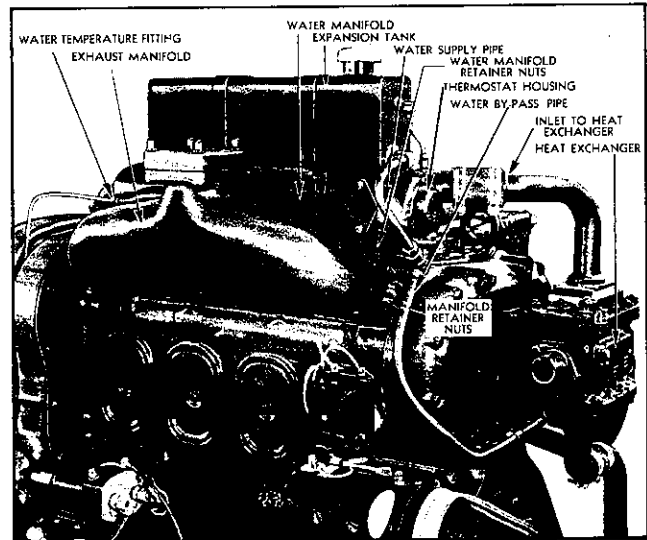

Fig. 7—Water Manifold and Connections—Heat Exchanger Installation.
5. Loosen the two compression coupling nuts and remove the water supply pipe leading from expansion tank to water by-pass pipe. (See Fig. 7.)